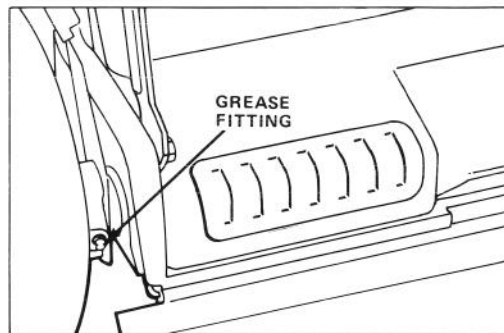

Figure 25
2. Move rear wheel height-of-cut levers to "C" setting. Wipe grease fittings with clean rag (Fig. 25). Install grease gun onto fitting and gently apply 1 or 2 pumps of #2 Multi-Purpose Lithium Base Grease.